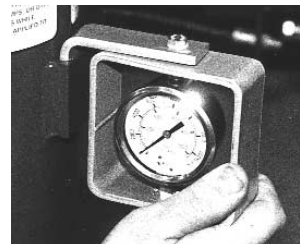
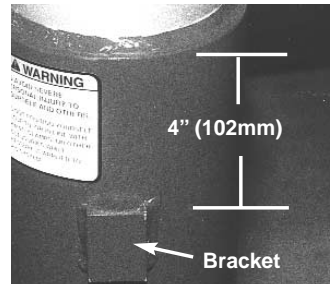
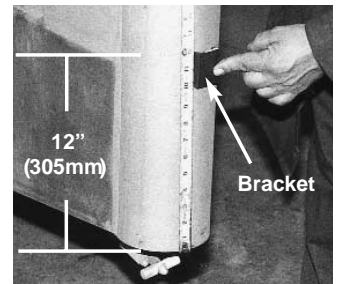

Figure 5
Figure 6
Figure 7
5. Mount pressure gauge to bracket at end of tower. (See Figure 5.) If tower has no bracket, weld bracket to end of tower. Figure 6 shows location on EZ Liner 25 towers and Figure 7 shows location on the former EZ Liner II and EZ Liner Classic towers.